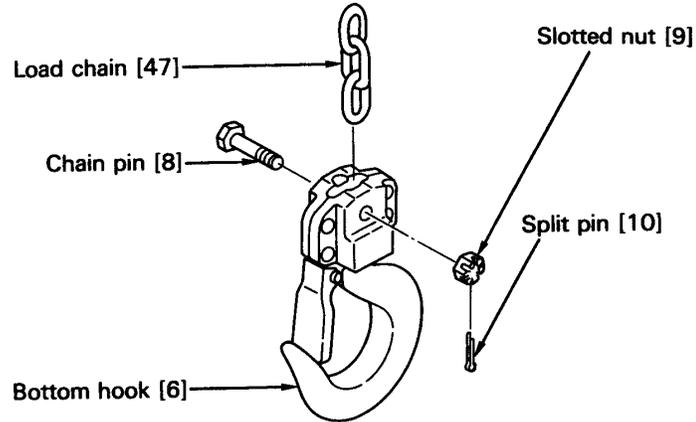

Figure 6-11 Bottom Hook Assembly
- 22) Insert the other end of the load chain [47] to the bottom hook [6] and fix them with the chain pin [8], slotted nut [9] and split pin [10]. See figure 6-11.